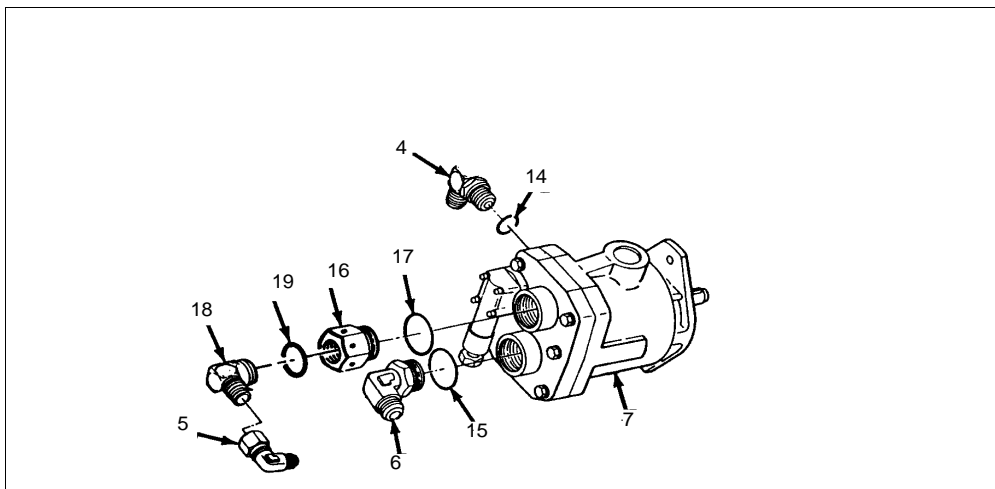

Figure 1-14. Disassembling the piston pump, part I
- a. Refer to Figure 1-14, and disassemble the piston pump using the following steps:
- Install the gasket (12) and the pump (7) on the transfer case (13) with the washer (11) and self-locking screws (10).
c. Refer to Figure 1-14, page 1-14. Install the packing (14), elbow (4), packing (15), elbow (6), packing (17), reducer (16), packing (19), elbow (18), and elbow (5) on